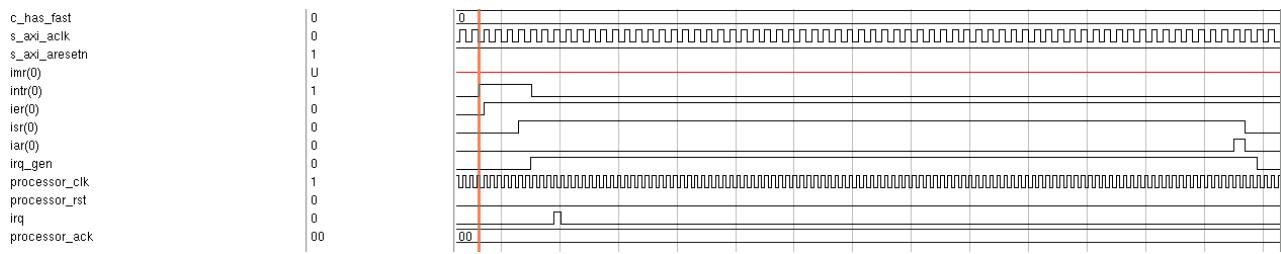

Figure 3-4: Input Intr - Edge Sensitive (Rising), Output IRQ - Edge Sensitive (Rising), C_HAS_FAST = 0
- Configured Input Interrupt (Intr) for Edge sensitive (rising), Output Interrupt Request (IRQ) to Edge sensitive (Rising), disabled fast interrupt logic (C_HAS_FAST = 0). Timing diagram is shown in Figure 3-4.